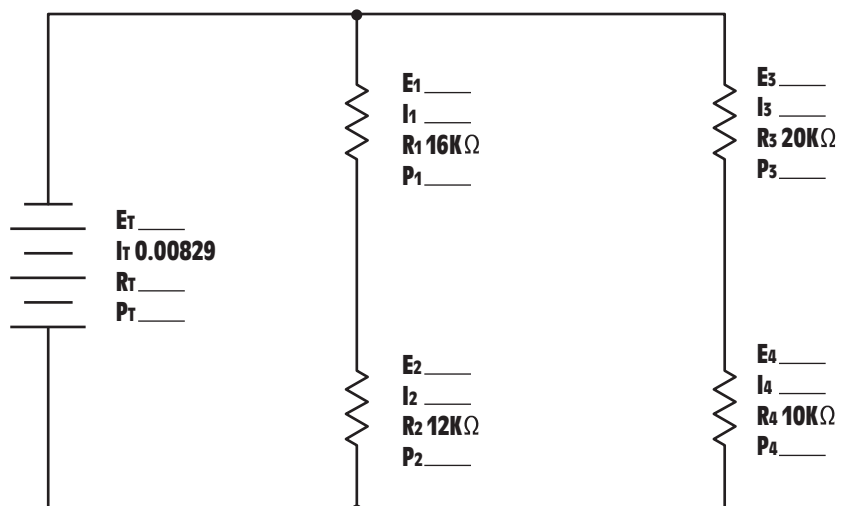

Figure 7-28 Practice Problem 8.
8. Find all the missing values in the circuit shown in *Figure 7-28*.